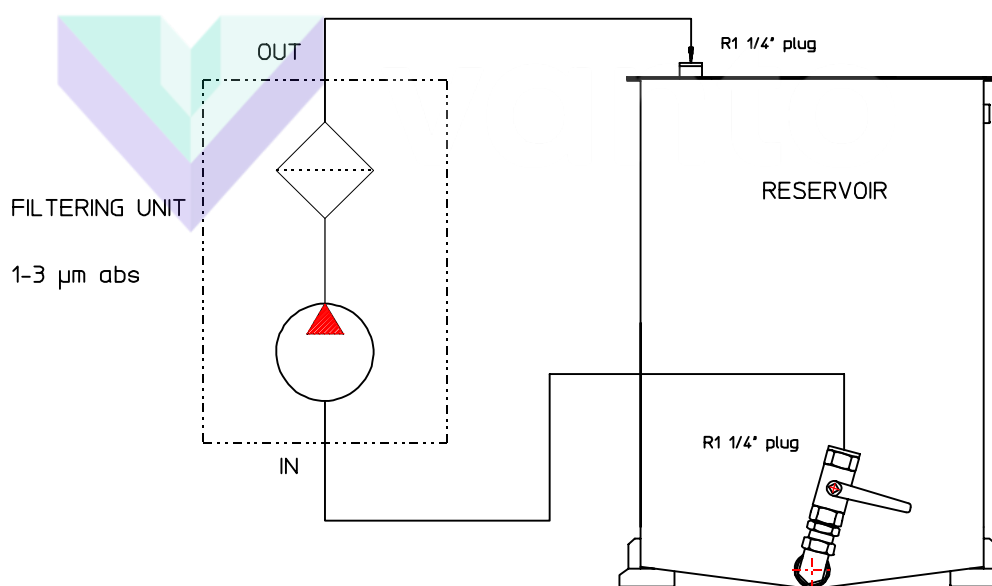

Fig. 2. Principal diagram of the separate filtering unit
- Connect a separate filtering unit beside the tank according to Fig. 2. Let the oil in the tank circulate through the separate filtering unit for at least one hour before starting the hydraulics.